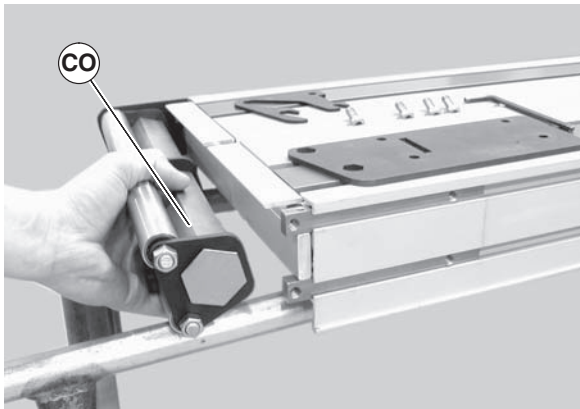

Figure 69
- Slide the transfer tail pulley assembly (Figure 69, item CO) out of the headplate on the opposite side.